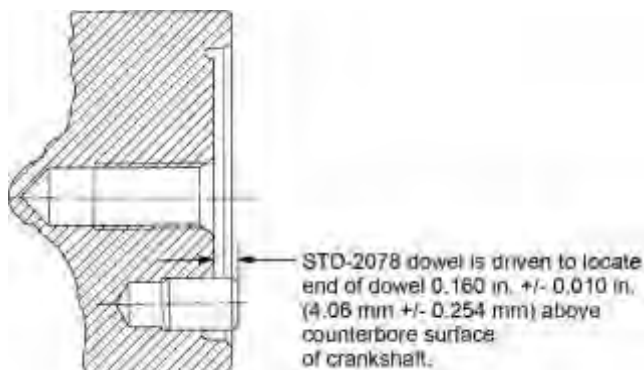

Figure 49
- (1) Use a center punch to mark the center of the exposed surface of the installed alignment dowel (Figure 49).
- (2) Mark a 1/8 in. drill bit to limit the depth of the drilled hole to 0.6 in. (15.14 mm).
- (3) Drill a 1/8 in. diameter hole through the center of the installed alignment dowel.
- (4) Fill the new drilled hole with oil.
- (5) Put a piece of 1/8 in. diameter drill rod in the drilled hole.
- (6) Use a hammer or mallet to hit the end of the drill rod.
- (7) Hydraulic pressure from the oil will push out the alignment dowel from the crankshaft.
- (8) Remove and discard the alignment dowel.
- (9) Examine the bottom of the alignment dowel hole to make sure that the drill bit did not make contact with the bottom of the hole. If the drill bit made contact with the bottom of the hole, send the crankshaft to the factory for evaluation.
- (10) Press the replacement alignment dowel into the alignment dowel hole to the required driven height. Refer to Figure 49 for the alignment dowel part number and the correct driven height.